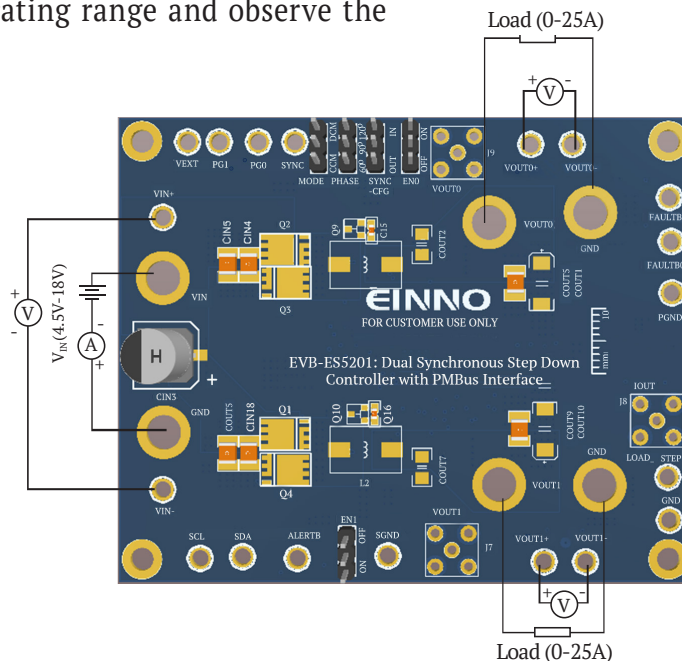

Figure 1 TEST SETUP OF EVB-ES5201
Demonstration circuit EVB-ES5201 is easy to set up to evaluate the performance of the ES5201. Please refer to Figure 1 for proper measurement setup and follow the procedure below:
1. With power off, connect the input power supply, load and meters as shown in Figure 1. Preset the load to 0A and V_{IN} supply to 12V.